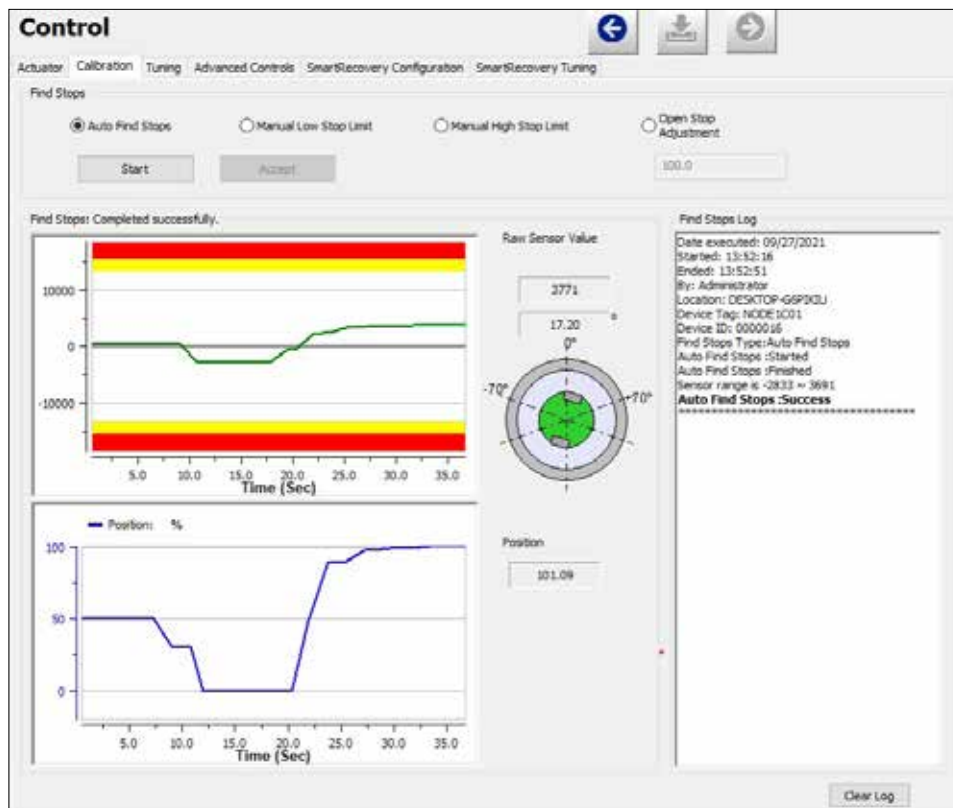

Figure 52 Advanced Setup: Control: Calibration
See Figure 52 for a full description of functionality.
Use this graph to graphically see the position versus time during the Find Stops procedure. See Figure 52
3. Click , the two graphs beginning showing results, the *Find Stops Log* lists detected values, test results appears (Figure 52) and if the test fails a list of reasons.